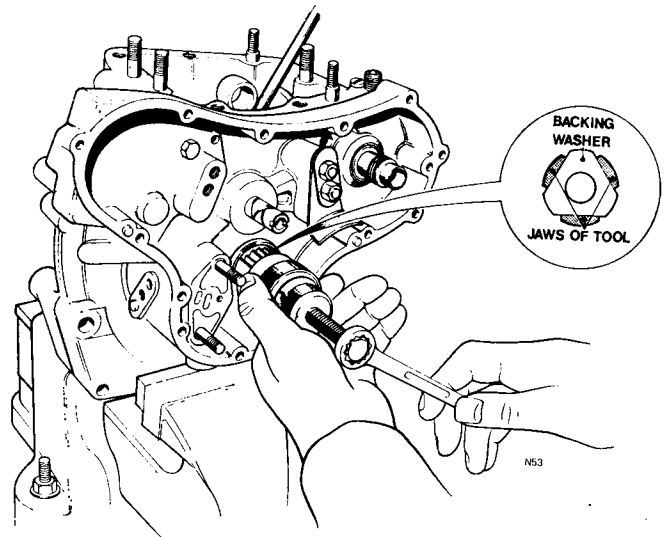

Fig. C24 Extracting crankshaft pinion using tool ET 2003
- 12 Using Service Tool ET.2003 as shown in Fig. C24, extract the crankshaft pinion. It should be noted that the jaws of the service tool locate to the spaces provided in the pinion backing washer.